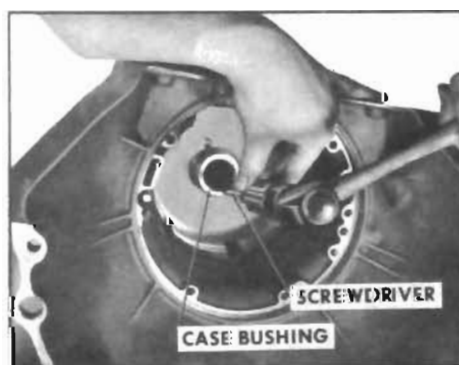

Figure 5-166
1. Inspect case bushing for nicks, scoring or excessive wear. If damaged, replace as follows: Place screwdriver in notch in case, then tap screwdriver with hammer to collapse bushing. See Figure 5-166.